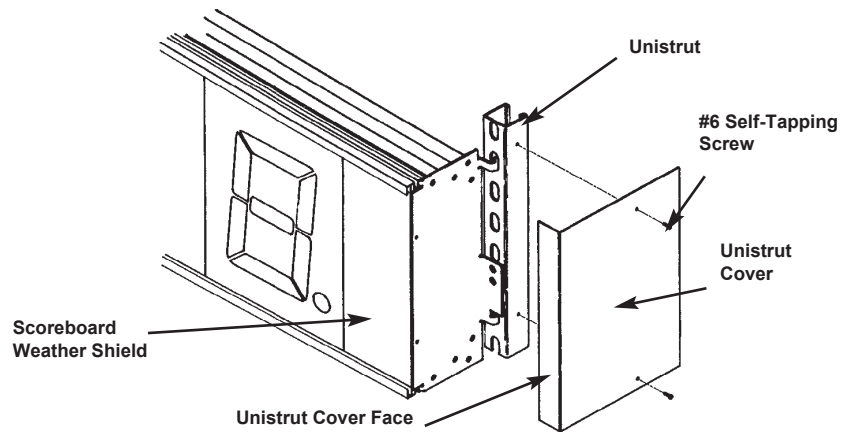

Figure 3-O: Installing optional unistrut cover
- 1) Position the cover over the unistrut on one of the outside edges of your scoreboard, aligning the front face of the cover behind the scoreboard weather shield slot as shown in Figure 3-O.